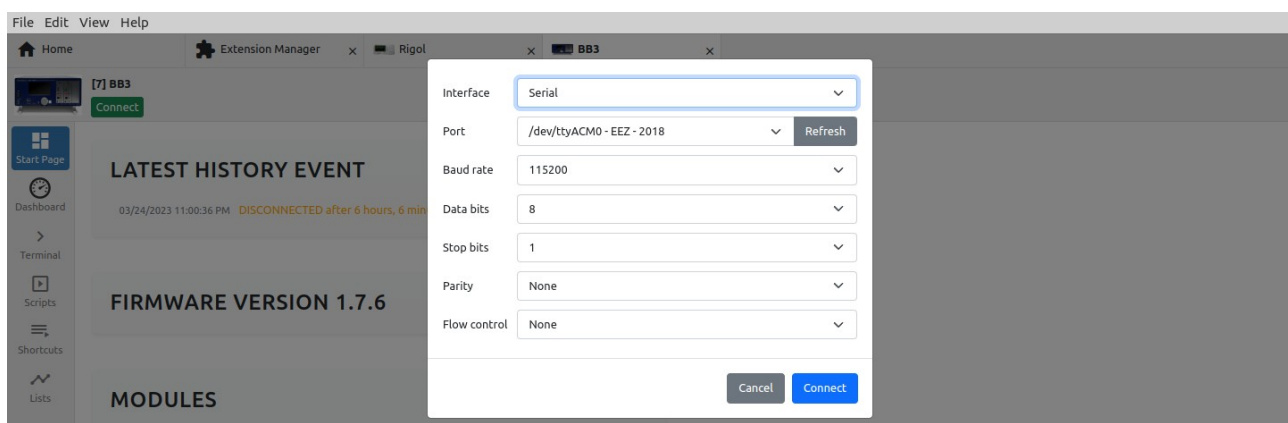

Fig. 26: Establishing a Connection from the Instrument tab
If the Instrument tab (1) is open, as shown in Fig. 26 to establish a connection, it will be necessary to click on the *Connect* button (2) when a dialogue for choosing an interface will open in which the connection parameters are defined.